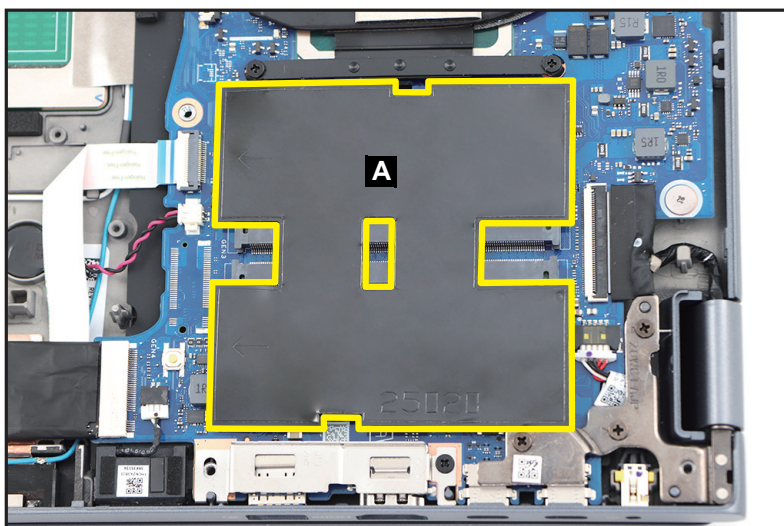

Figure 1-26. DIMM Module Removal
1. Detach the absorber with mylar (A) covering the DIMM modules (Figure 1-26).